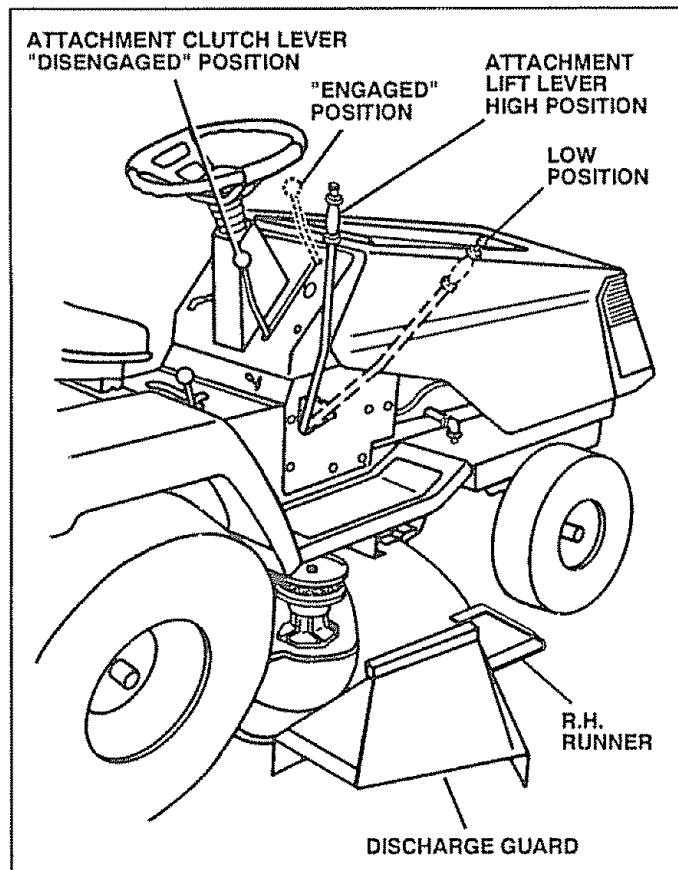

FIG. 10
TO OPERATE MOWER (See Fig. 10)
- Use the runner on the right hand side of mower as a guide. The blade cuts approximately an inch outside the runner (See Fig. 10).